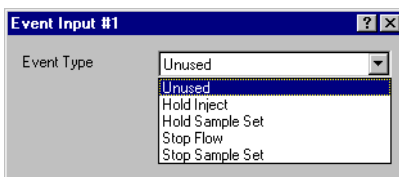

Figure 3-9 Selecting the Event Input Type
- b. Select an event type from the Event Type list (Figure 3-9).